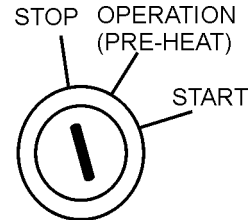

Figure 52. Ignition Switch (Emergency)
1. Place the **main, G.F.C.I., and aux.** circuit breakers (Figure 52) in the **OFF** position.
2. Turn the ignition key (Figure 52) to the **STOP** position.